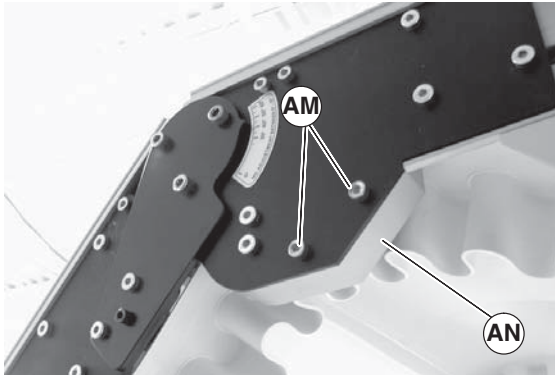

Figure 34
- Install knuckle guard (Figure 34, item AN) on both sides of knuckle with screws (AM). Tighten screws to 25 in-lbs (3 N-m).